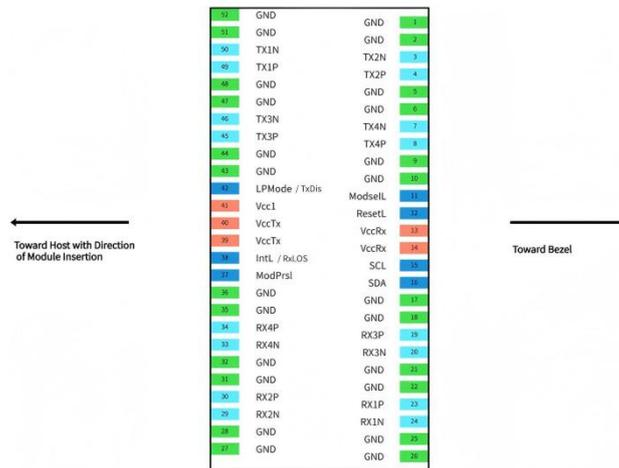

Figure4:QSFP112 Pin view
**Note2:** Vcc Rx, Vcc1 and Vcc Tx are the receiver and transmitter power supplies and shall be applied concurrently. Requirements, defined for the host side of the Host Edge Card Connector, are listed in Table 4. Recommended host board power supply filtering is shown in Figure 4. Vcc Rx, Vcc1 and Vcc Tx may be internally connected within the QSFP12 module in any combination. The connector pins are each rated for a maximum current of 1.5A (max. current of 2.0 A is required for high module power of 15-20W).